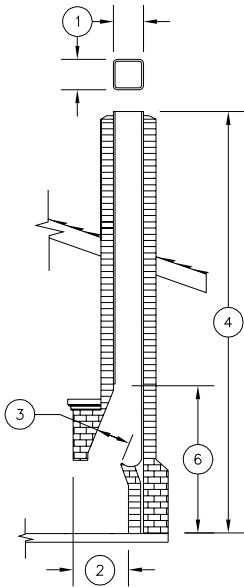

Fig. 1
5. Determine if your setup is an open hearth (Figure 1) or tee installation (Figure 2). Also determine the available size of your chimney (Figure 2a) and the corresponding allowable DuraLiner size. (Chart 2a)
6. If you have an open hearth setup, verify your flue size, and the fireplace opening and depth before you purchase your appliance and reliner. (See Figure 1)
9. Chimney flue size (Figure 1) determines the size top you select. (See catalog for details).
Follow these basic assembly instructions when installing DuraLiner in the open hearth installation (Figure 1). For tee installations, refer to the Tee Installation section of these instructions. The oval liner fits together in the same manner as the round liner.